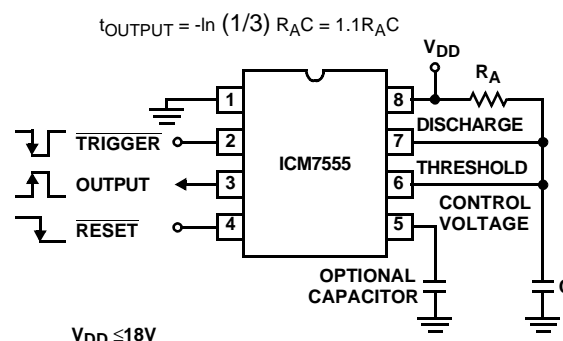

FIGURE 3. MONOSTABLE OPERATION
In this mode of operation, the timer functions as a one-shot, see Figure 3. Initially the external capacitor (C) is held discharged by a transistor inside the timer. Upon application of a negative TRIGGER pulse to pin 2, the internal flip-flop is set which releases the short circuit across the external capacitor and drives the OUTPUT high. The voltage across the capacitor now increases exponentially with a time constant $t = R_A C$. When the voltage across the capacitor equals $\frac{2}{3} V_+$, the comparator resets the flip-flop, which in turn discharges the capacitor rapidly and also drives the OUTPUT to its low state. TRIGGER must return to a high state before the OUTPUT can return to a low state.